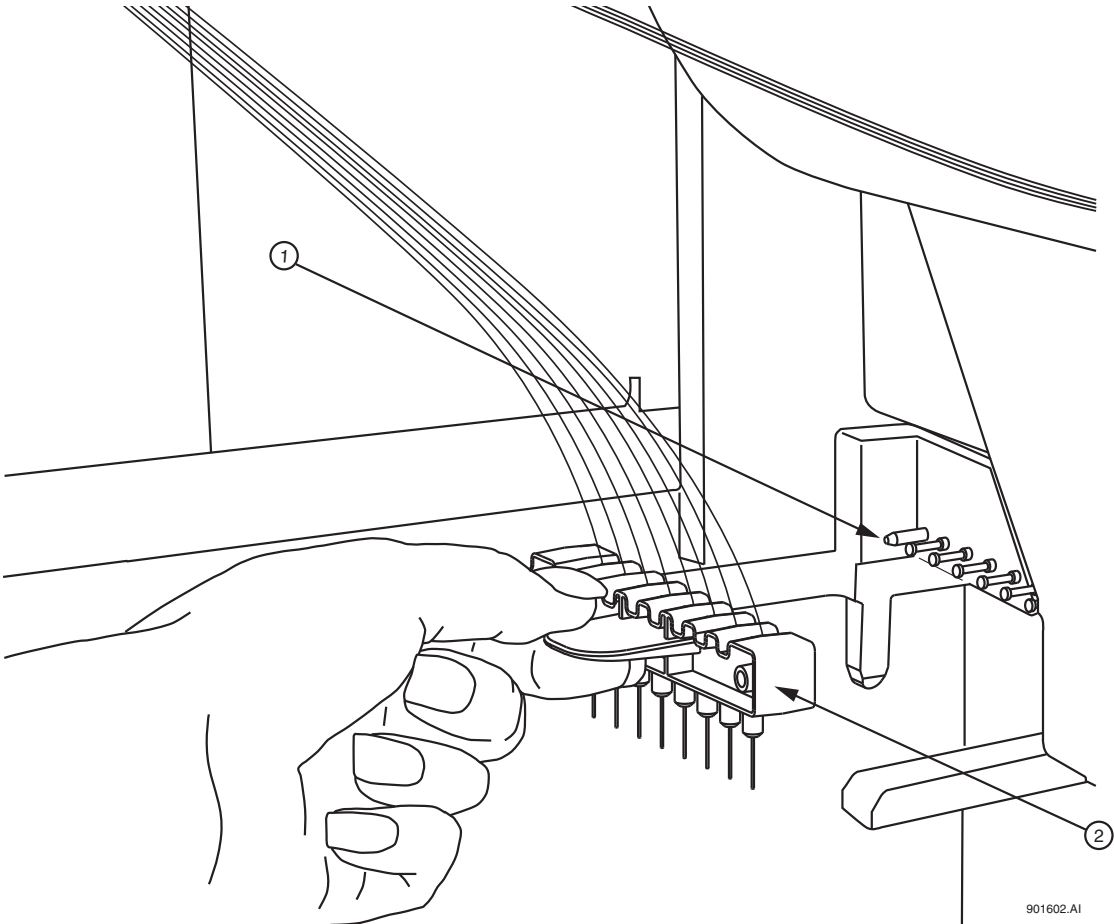
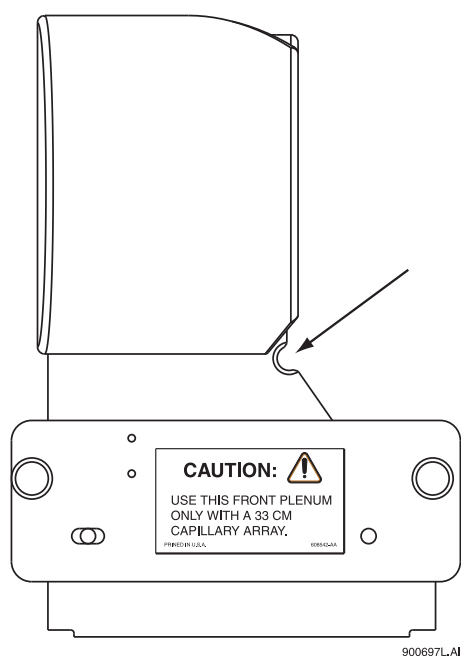

Figure 3.44 Removing/Replacing the Electrode Block
Figure 3.46 Plenum Assembly - Capillary Routing Hole
9. Grasp the Electrode Block tab (Figure 3.44) and pull the block out and away from the instrument.
12. While holding the Electrode Block tab, align the Electrode Block (Figure 3.44) with the guide block pins and gently push it in until resistance is met. (The resistance is from the spring-loaded contacts.)
13. When installing the capillary array, carefully route the capillaries through the hole in the Plenum Assembly (Figure 3.46) and straight across the guide block pins (Figure 3.44).